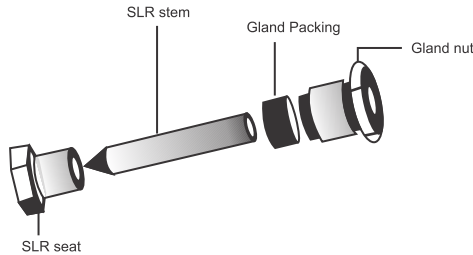

Figure 9: SLR assembly
7.5 Procedure to fit the steam lock release (SLR) assembly : (Refer to Figure 9)
2. Remove the SLR gasket. (not shown in the figure 9.)